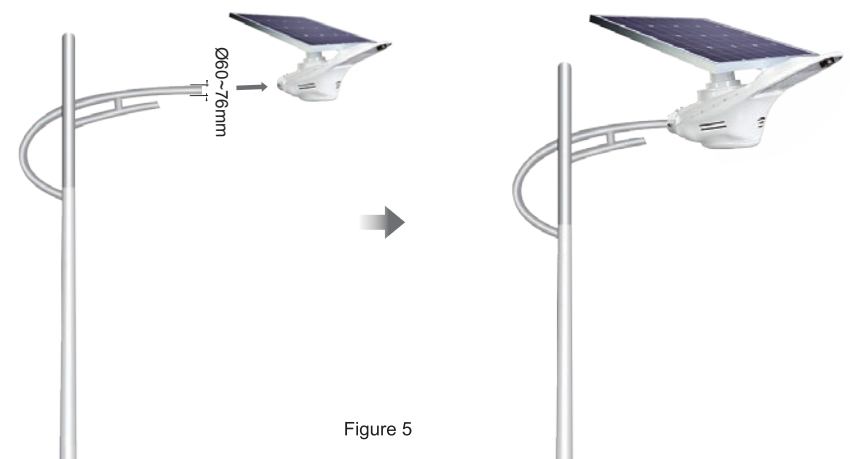

Figure 5
- 4 Install light:** Fix the light unit to the pole with 8pcs M10X25 screws. The maximum torque for those M10X25 bolts is 29Nm. Do not surpass this torque specification. (See Figure 5)